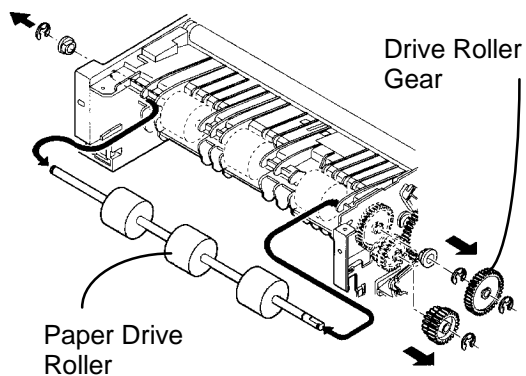

Figure 2. Removing the Paper Drive Roller
4. (Figure 2): Remove the E-Rings, Gears, and Bearings. Remove the Paper Drive Roller.